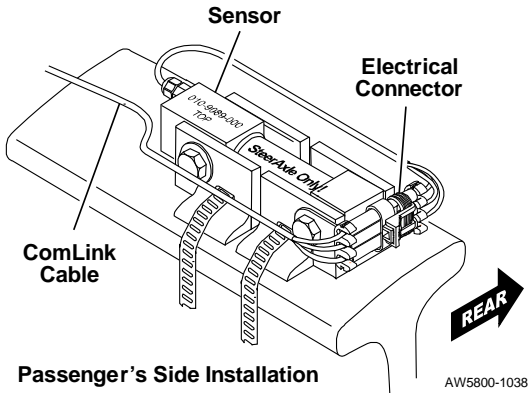

Figure 16. Placing the ComLink Cable for Passenger's Side Hookup
1. Facing towards the rear of the vehicle, route the cable from the connector assembly so it runs to the left of the steer axle sensor assembly. See Figure 16.